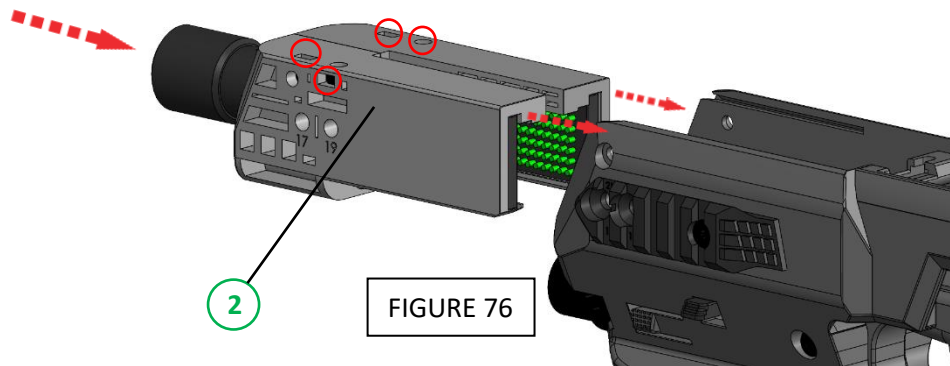

FIGURE 76
Insert the front aluminum tube housing assembly (2) back into the front of the MCK {Make sure that all 4 nuts are in place (circled)} (FIGURE 76).